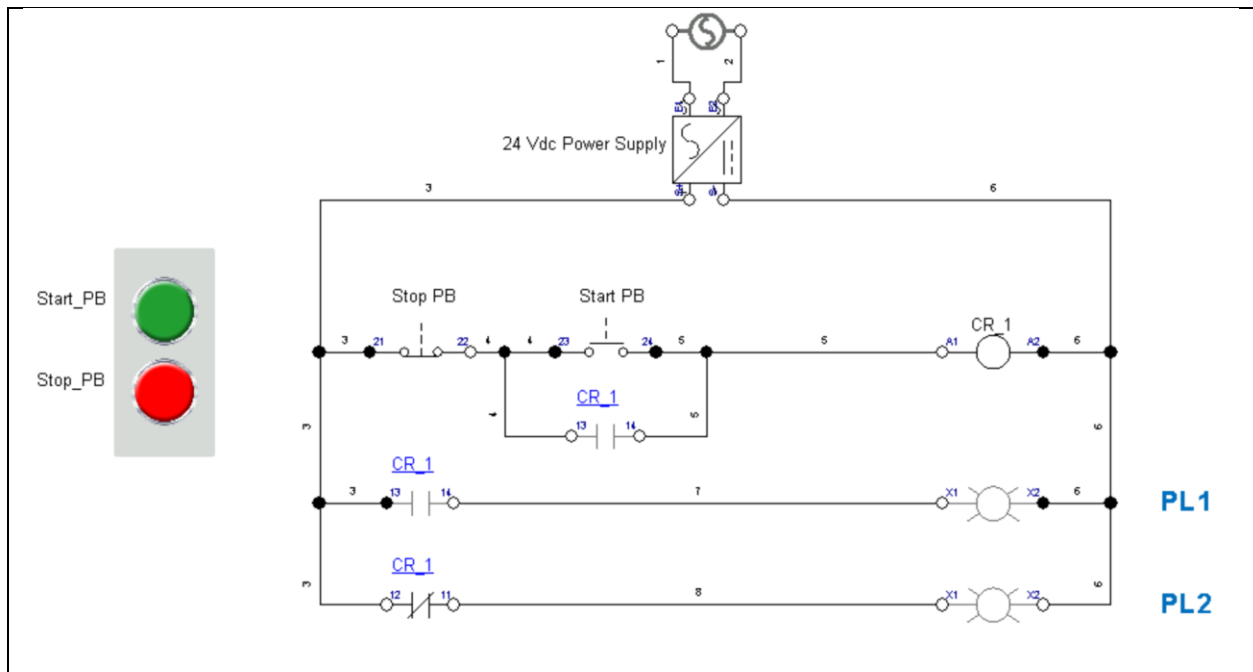

Figure 16. The circuit from Figure 15 drawn a different way.
6. Figure 16 shows the circuit from Figure 16 redrawn in a format more common in industry. This is sometime termed a ladder circuit, since it looks like the rungs of a ladder. The operation is the same.